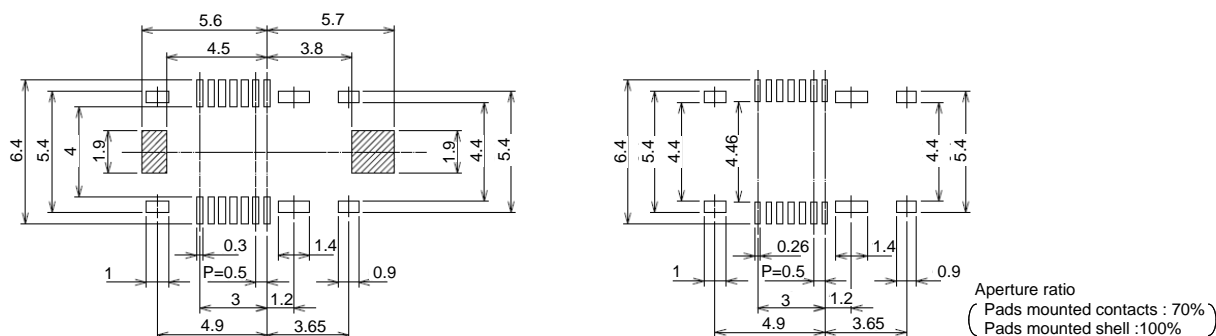

Figure 2.4 (A) Land pattern and metal mask recommended for TX/RX receptacles
Note 3 : The hatched areas in Figure 2.4(A) are close to metal shell, and there is a possibility of a short circuit. Make sure not to locate a Via without a solder mask.